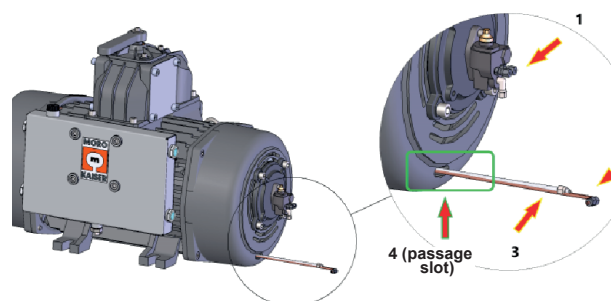

Fig. H.10 - Phase 0060
- Unscrew the head of the fitting (**pos.1 Fig. H.10**) (spanner ch10).
- The fitting heads remain on the ends of the pipes (**pos.2 Fig. H.10**).
- Straighten the copper pipes as much as possible except for the last bend (space for the union heads) (**pos.3 Fig. H.10**).
- Then pass the pipes with union heads through the highlighted slot on the rear fan cover (**pos.4 Fig. H.10**).